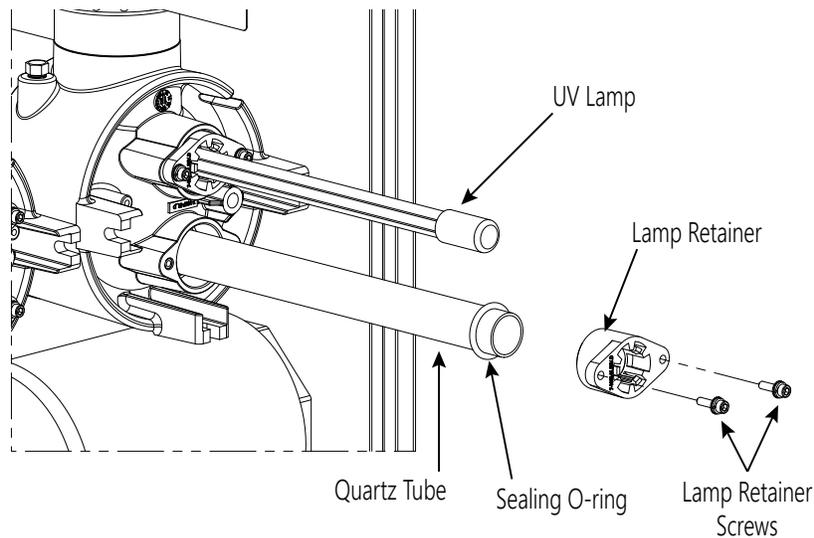

Figure 6: UV Lamp and Quartz Tube Removal
2. Place the lamp retainer over the quartz tube and attach the lamp retainer using the lamp retainer screws and washers as shown in *Figure 6*. Make sure the lamp retainer flanges are fully seated against the UV reactor.